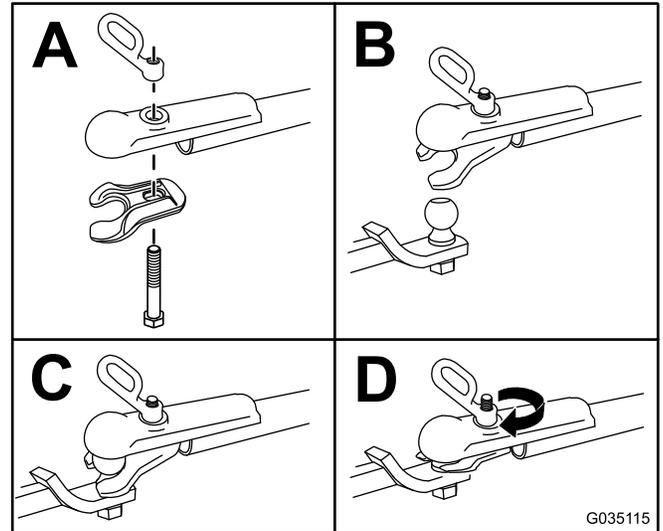

Figure 23
3. Install hitch the machine as shown in Figure 23.